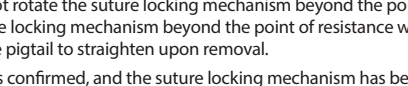

Figure 5
3. Slide pigtail straightener along distal portion of catheter to straighten curve prior to placing the stiffening cannula into the catheter. Place the stiffening cannula into the catheter and tighten the luer fittings. See Figure 5.